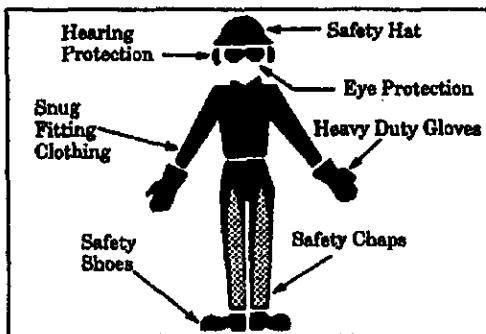

Figure 4
1. Wear protective gear. Figure 4. Always use steel-toed safety footwear with non-slip soles; snug-fitting clothing; heavy-duty, non-slip gloves; safety glasses or similar eye protection such as non-fogging, vented goggles or face screen; an approved safety hard hat; and sound barriers—ear plugs or mufflers to protect your hearing. Do not wear loose clothing or jewelry; they can get caught in moving parts. Wear protective hair covering to contain long hair. Regular users should have hearing checked regularly as chain saw noise can damage hearing.